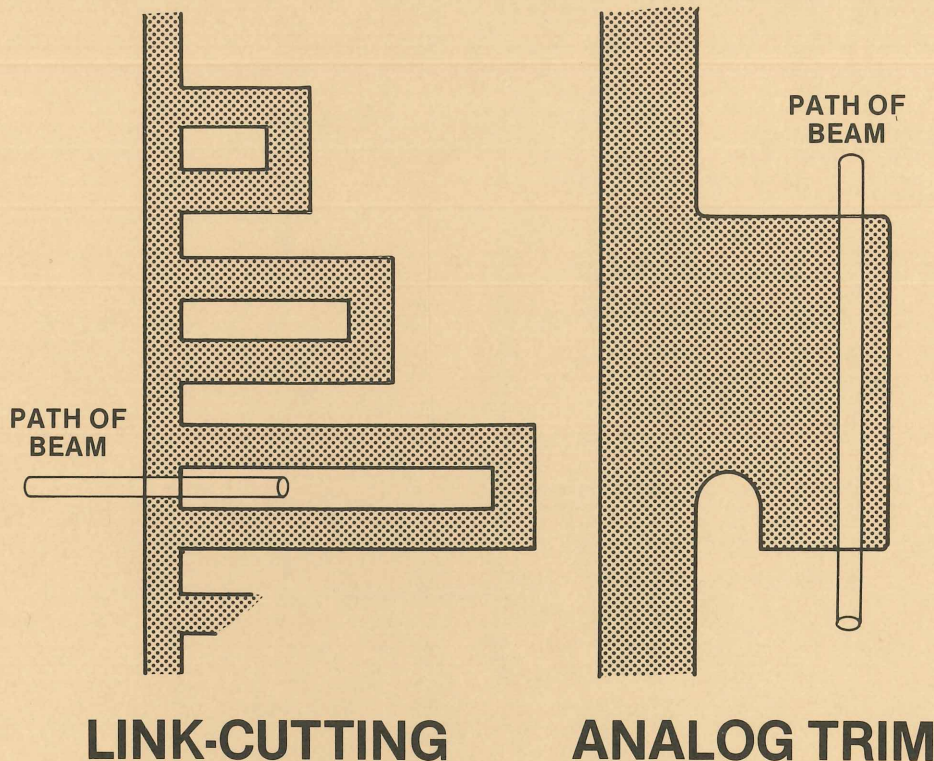

Figure 2. Thin-film resistors can be trimmed in several ways. Here are two popular methods.
Figure 2. This is a top (A) and cross-sectional (B) view of a circuit composed of a resistor, diode and transistor. The precise alignment of consecutive masking steps is an exacting and difficult challenge.
The precise alignment of consecutive images is one of the most difficult and exacting challenges facing the photolithographic engineer. Alignment often requires sophisticated and expensive equipment. Figure 2 illustrates a simple integrated circuit and indicates the challenges photolithographic engineers face.
Figure 2 shows the brightness-voltage characteristic of an EL display. The display gives off light when an electric field of approximately 20 million
Figure 2. This graph of EL display brightness-voltage characteristics shows that, at the threshold voltage, the thin-film insulators emit light. Increased voltage greatly increases brightness until the saturation voltage is reached. In the upper left corner is an equivalent circuit schematic of the EL display.
EL displays have high contrast ratios because brightness increases sharply above the threshold voltage as shown in figure 2.